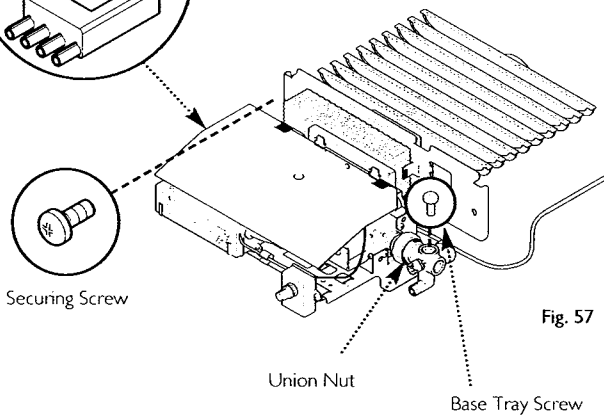

Fig. 57
3. Disconnect the union at the gas service tap and remove the fire feed pipe (Fig. 57).
6. Undo the two screws retaining the controls to the combustion box (Fig. 57).
7. Undo the screw holding the controls to the combustion box base tray (Fig. 57).